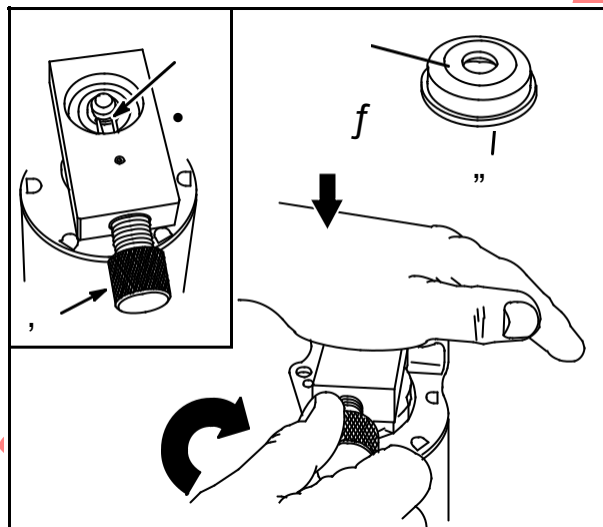

Fig. 7
Place the counterbored side of C-ring Remover #19436 (2) over retainer. Align drive pins (1) with open end of C-ring, **Fig. 7**.